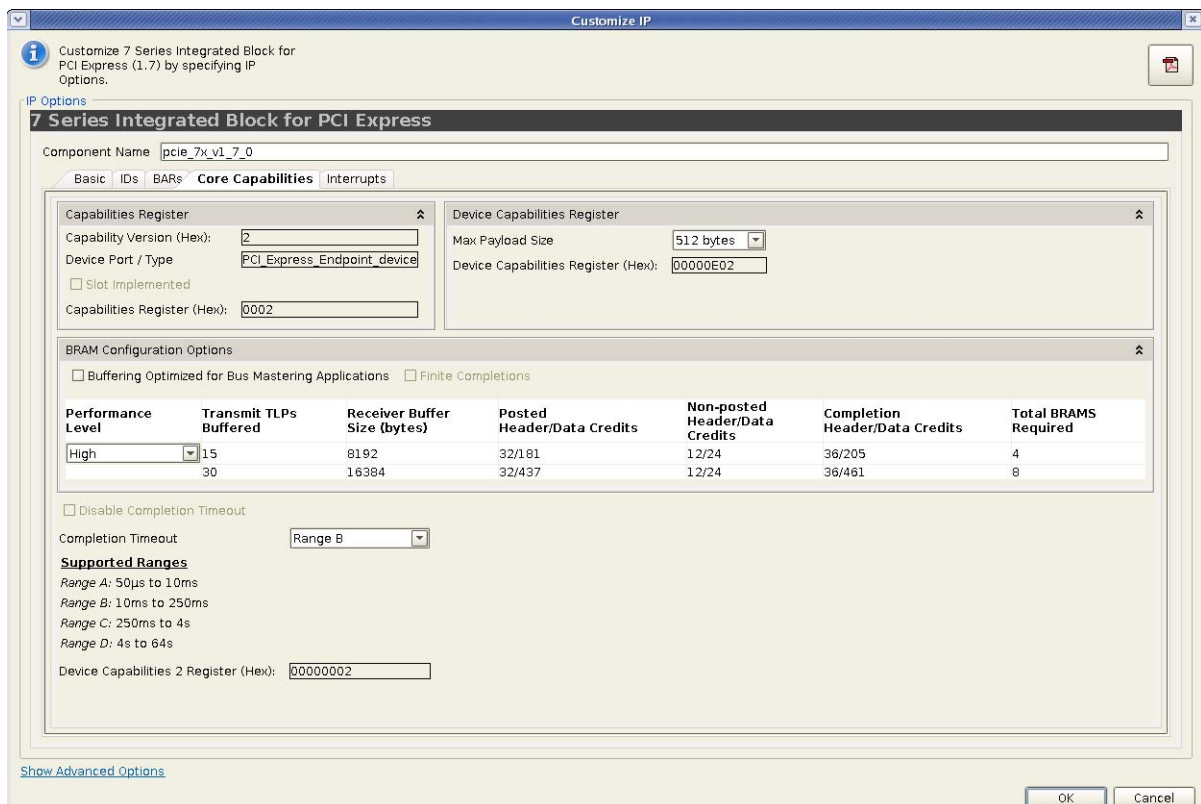

Figure 4-4: Core Capabilities Parameters
The Core Capabilities parameters shown in Figure 4-4 is used to customize the IP initial values, class code, and Cardbus CIS pointer information.
- **Attention Button Present:** Indicates the Attention Button is implemented. When set, indicates that an Attention Button for this slot is implemented on the chassis. This option is disabled when "Device_Port_Type" is not "Root Port of PCI Express Root Complex." This is enabled only when the Slot Implemented parameter in the Core Capabilities tab is selected (see Figure 4-4).
- **Attention Indicator Present:** Indicates the Attention Indicator is implemented. When set, indicates that an Attention Indicator for this slot is implemented on the chassis. This option is disabled when "Device_Port_Type" is not "Root Port of PCI Express Root Complex." This is enabled only when the Slot Implemented parameter in the Core Capabilities tab is selected (see Figure 4-4).
- **Power Controller Present:** Indicates the Power Controller is implemented. When set, indicates that a software programmable Power Controller is implemented for this slot. This option is disabled when "Device_Port_Type" is not "Root Port of PCI Express Root Complex." This is enabled only when the Slot Implemented parameter in the Core Capabilities tab is selected (see Figure 4-4).
- **Power Indicator Present:** Indicates the Power Indicator is implemented. When set, indicates that a Power Indicator is implemented on the chassis for this slot. This option is disabled when "Device_Port_Type" is not "Root Port of PCI Express Root Complex." This is enabled only when the Slot Implemented parameter in the Core Capabilities tab is selected (see Figure 4-4).
- **Hot-Plug Surprise:** When set, indicates that an adapter in this slot might be removed from the system without any prior notification. This option is disabled when "Device_Port_Type" is not "Root Port of PCI Express Root Complex." This is enabled only when the Slot Implemented parameter in the Core Capabilities tab is selected (see Figure 4-4).
- **Hot-Plug Capable:** When set, indicates that this slot is capable of supporting hot-plug operations. This option is disabled when "Device_Port_Type" is not "Root Port of PCI Express Root Complex." This is enabled only when the Slot Implemented parameter in the Core Capabilities tab is selected (see Figure 4-4).
Express Root Complex.” This is enabled only when the Slot Implemented parameter in the Core Capabilities tab is selected (see Figure 4-4).
- **Electromechanical Interlock Present:** When set, indicates that an Electromechanical Interlock is implemented on the chassis for this slot. This option is disabled when "Device_Port_Type" is not "Root Port of PCI Express Root Complex." This is enabled only when the Slot Implemented parameter in the Core Capabilities tab is selected (see Figure 4-4).
- **No Command Completed Support:** When set, indicates that the slot does not generate software notification when an issue command is completed by the Hot-Plug Controller. This option is disabled when "Device_Port_Type" is not "Root Port of PCI Express Root Complex." This is enabled only when the Slot Implemented parameter in the Core Capabilities tab is selected (see Figure 4-4).
- **Slot Power Limit Value:** Specifies the Upper Limit on power supplied to the slot, in combination with Slot Power Limit Scale value. This option is disabled when "Device_Port_Type" is not "Root Port of PCI Express Root Complex." This is enabled only when the Slot Implemented parameter in the Core Capabilities tab is selected (see Figure 4-4).
- **Slot Power Limit Scale:** Specifies the scale used for the Slot Power Limit value. This option is disabled when "Device_Port_Type" is not "Root Port of PCI Express Root Complex." This is enabled only when the Slot Implemented parameter in the Core Capabilities tab is selected (see Figure 4-4).
- **Physical Slot Number:** Specifies the Physical Slot Number attached to this port. This field must be hardware initialized to a value that assigns a slot number that is unique within the chassis, regardless of form factor associated with the slot. This option is disabled when "Device_Port_Type" is not "Root Port of PCI Express Root Complex." This is enabled only when the Slot Implemented parameter in the Core Capabilities tab is selected (see Figure 4-4).